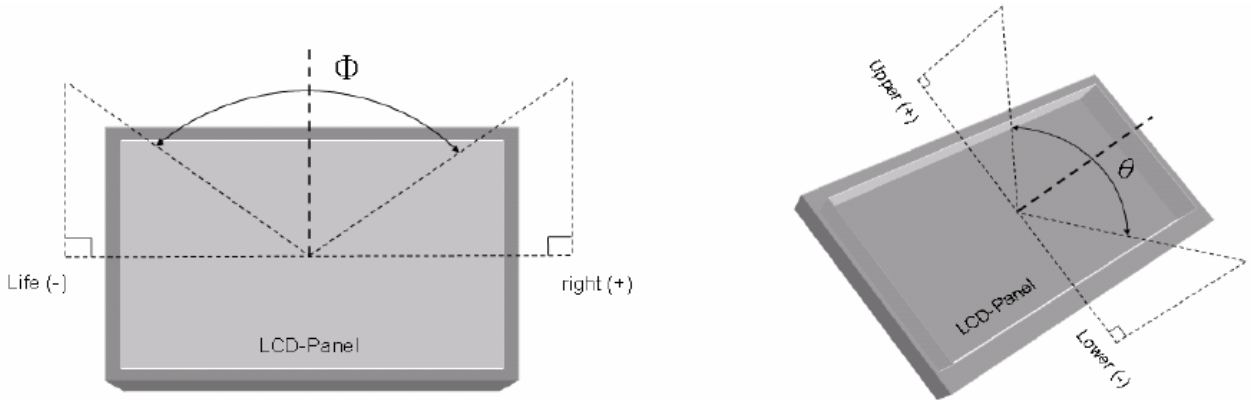

Fig9-2 Definition of Viewing Angle
(5) Definition of Viewing Angle(Θ, Φ), refer to Fig9-2 as below :